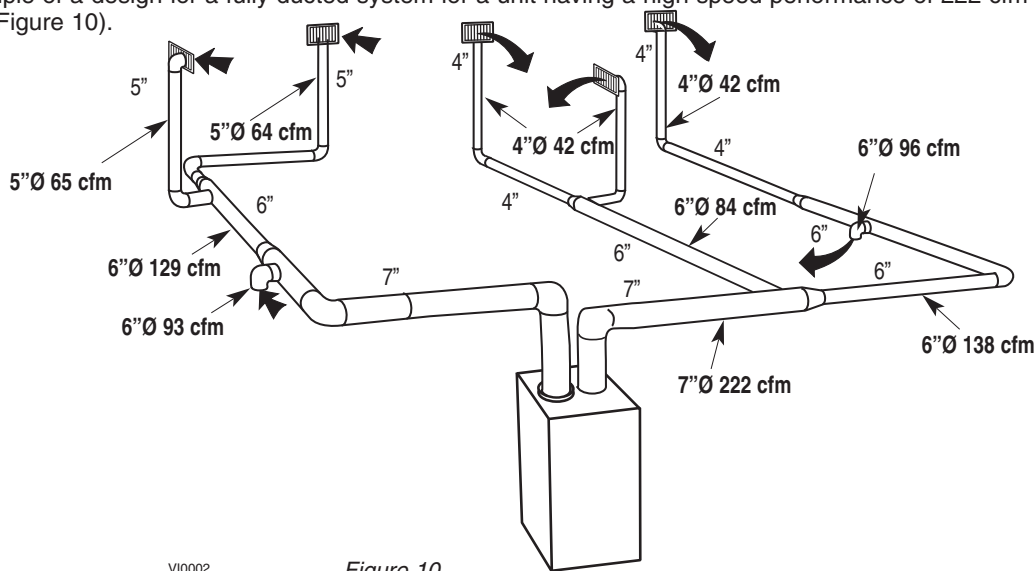

Figure 10
4.3.2 Example of a design for a fully ducted system for a unit having a high speed performance of 222 cfm (see Figure 10).